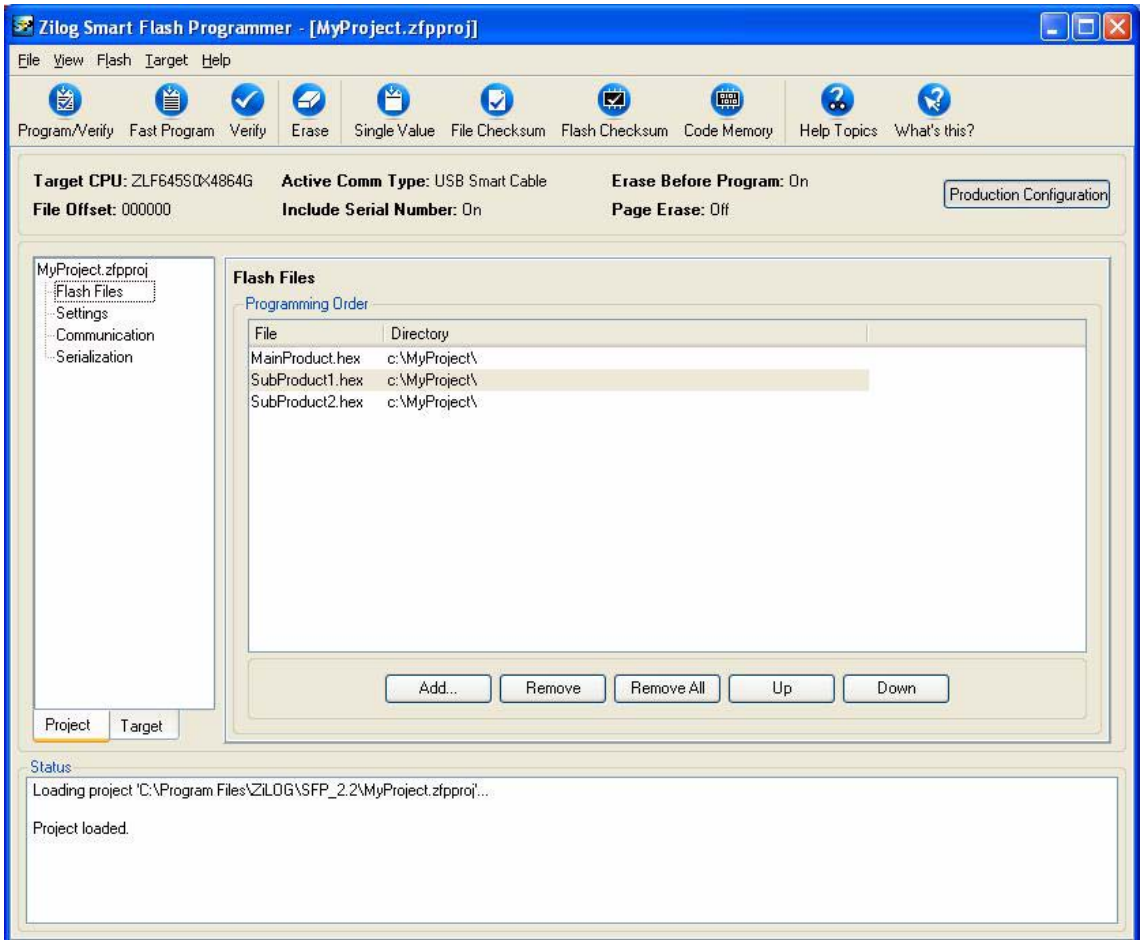

Figure 2. SFP GUI
- 1. Click **Start** → **Programs** → **Zilog Smart Flash Programmer 2.2** → **Smart Flash Programmer 2.2** to launch the SFP application (see Figure 2 on page 7).
Figure 2 displays the SFP GUI.